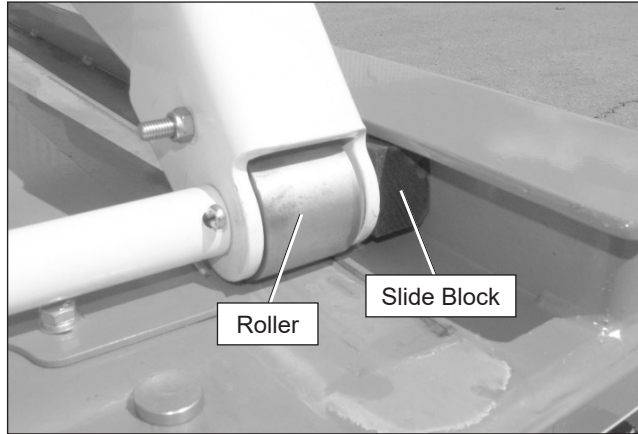

Figure 8.15 – Front of Chassis
1. Visually inspect the scissors arm rollers and slide blocks (refer to Figure 8.15). They must be free to move without obstruction. There is one roller and slide block on each side of the chassis.